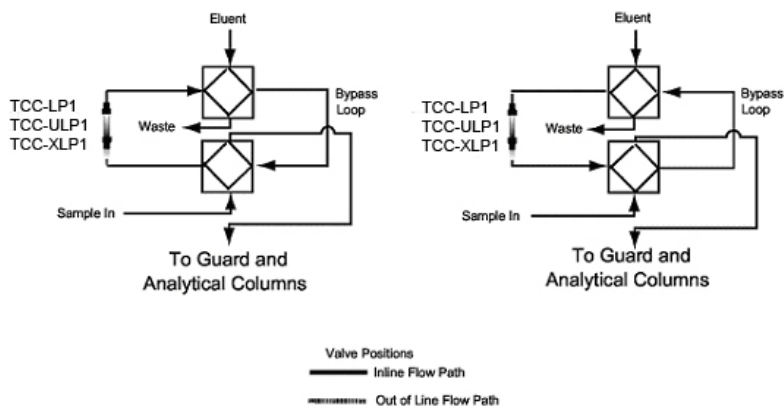
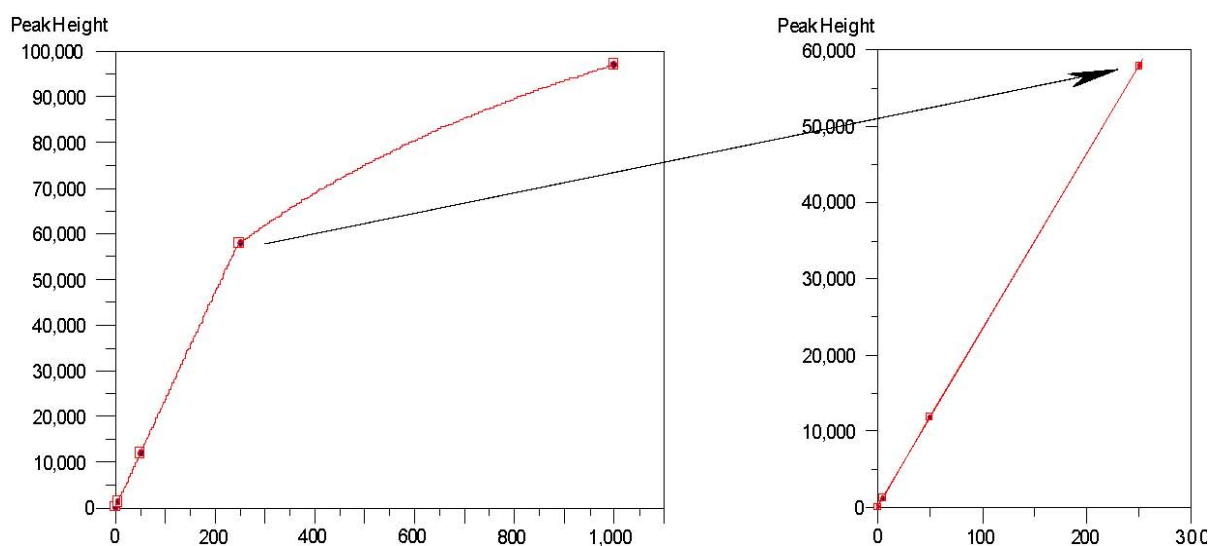

FIGURE 4
FIGURE 5
After the sample has been loaded onto the TCC-LP1, TCC-ULP1, or TCC-XLP1 in the direction opposite to the eluent flow, it is then “back flushed” with eluent onto the guard and analytical columns (see Figure 4, “Loading the TCC-LP1, TCC-ULP1, or TCC-XLP1 Column”). This configuration concentrates the cations in a tight band at the bottom of the TCC columns. When injected, all of the ions are rapidly eluted off of the TCC columns, and onto the guard and analytical columns. If the sample is loaded onto the TCC-LP1, TCC-ULP1, or TCC-XLP1 in the same flow direction as the eluent flow, the cations are concentrated at the head of the column rather than at the bottom. When injected, the cations begin chromatographic separation on the concentrator before reaching the guard and analytical columns. Therefore, the retention time of the analytes would be significantly longer than a standard loop injection. Normally the function of the concentrator is to strip the ions of interest from the sample matrix and not to act as an analytical column.
Figure 4 shows the configuration for sample loading using a slider valve.
- D. A plot of response versus concentration should be generated as in Figure 5, "Linearity of Lithium Concentrator Injection," for the determination of the maximum amount of sample or standard that can be quantitatively loaded. In Figure 4, "Linearity of Lithium Concentrator Injection," the break in the curve where linearity starts to change is at a concentration volume of 1 mL of 250 $\mu\text{g/L}$ lithium. For practical purposes the amount concentrated for a series of samples should be 75% of this value. This will ensure that there is a safety margin built into the concentration process in case a sample in a series of concentration experiments has a slightly higher ionic concentration.